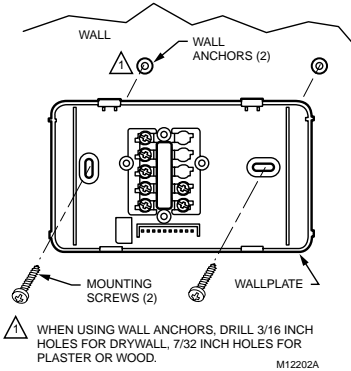

Fig. 3. Mounting wallplate to wall.
- Position the wallplate on the wall. Level the wallplate for appearance, if desired. Use a pencil to mark the two mounting holes that best fit the application. See Fig. 3.